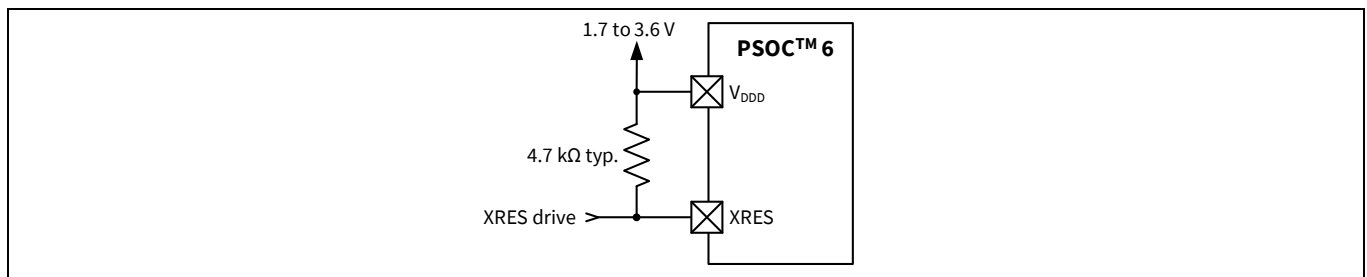

Figure 5 XRES connection diagram
- External reset dedicated pin (XRES) to reset the device using an external source. The XRES pin is active low. It can be connected either to a pull-up resistor to V_{DD} , or to an active drive circuit, as **Figure 5** shows. If a pull-up resistor is used, select its value to minimize current draw when the pin is pulled low; 4.7 k Ω is typical.